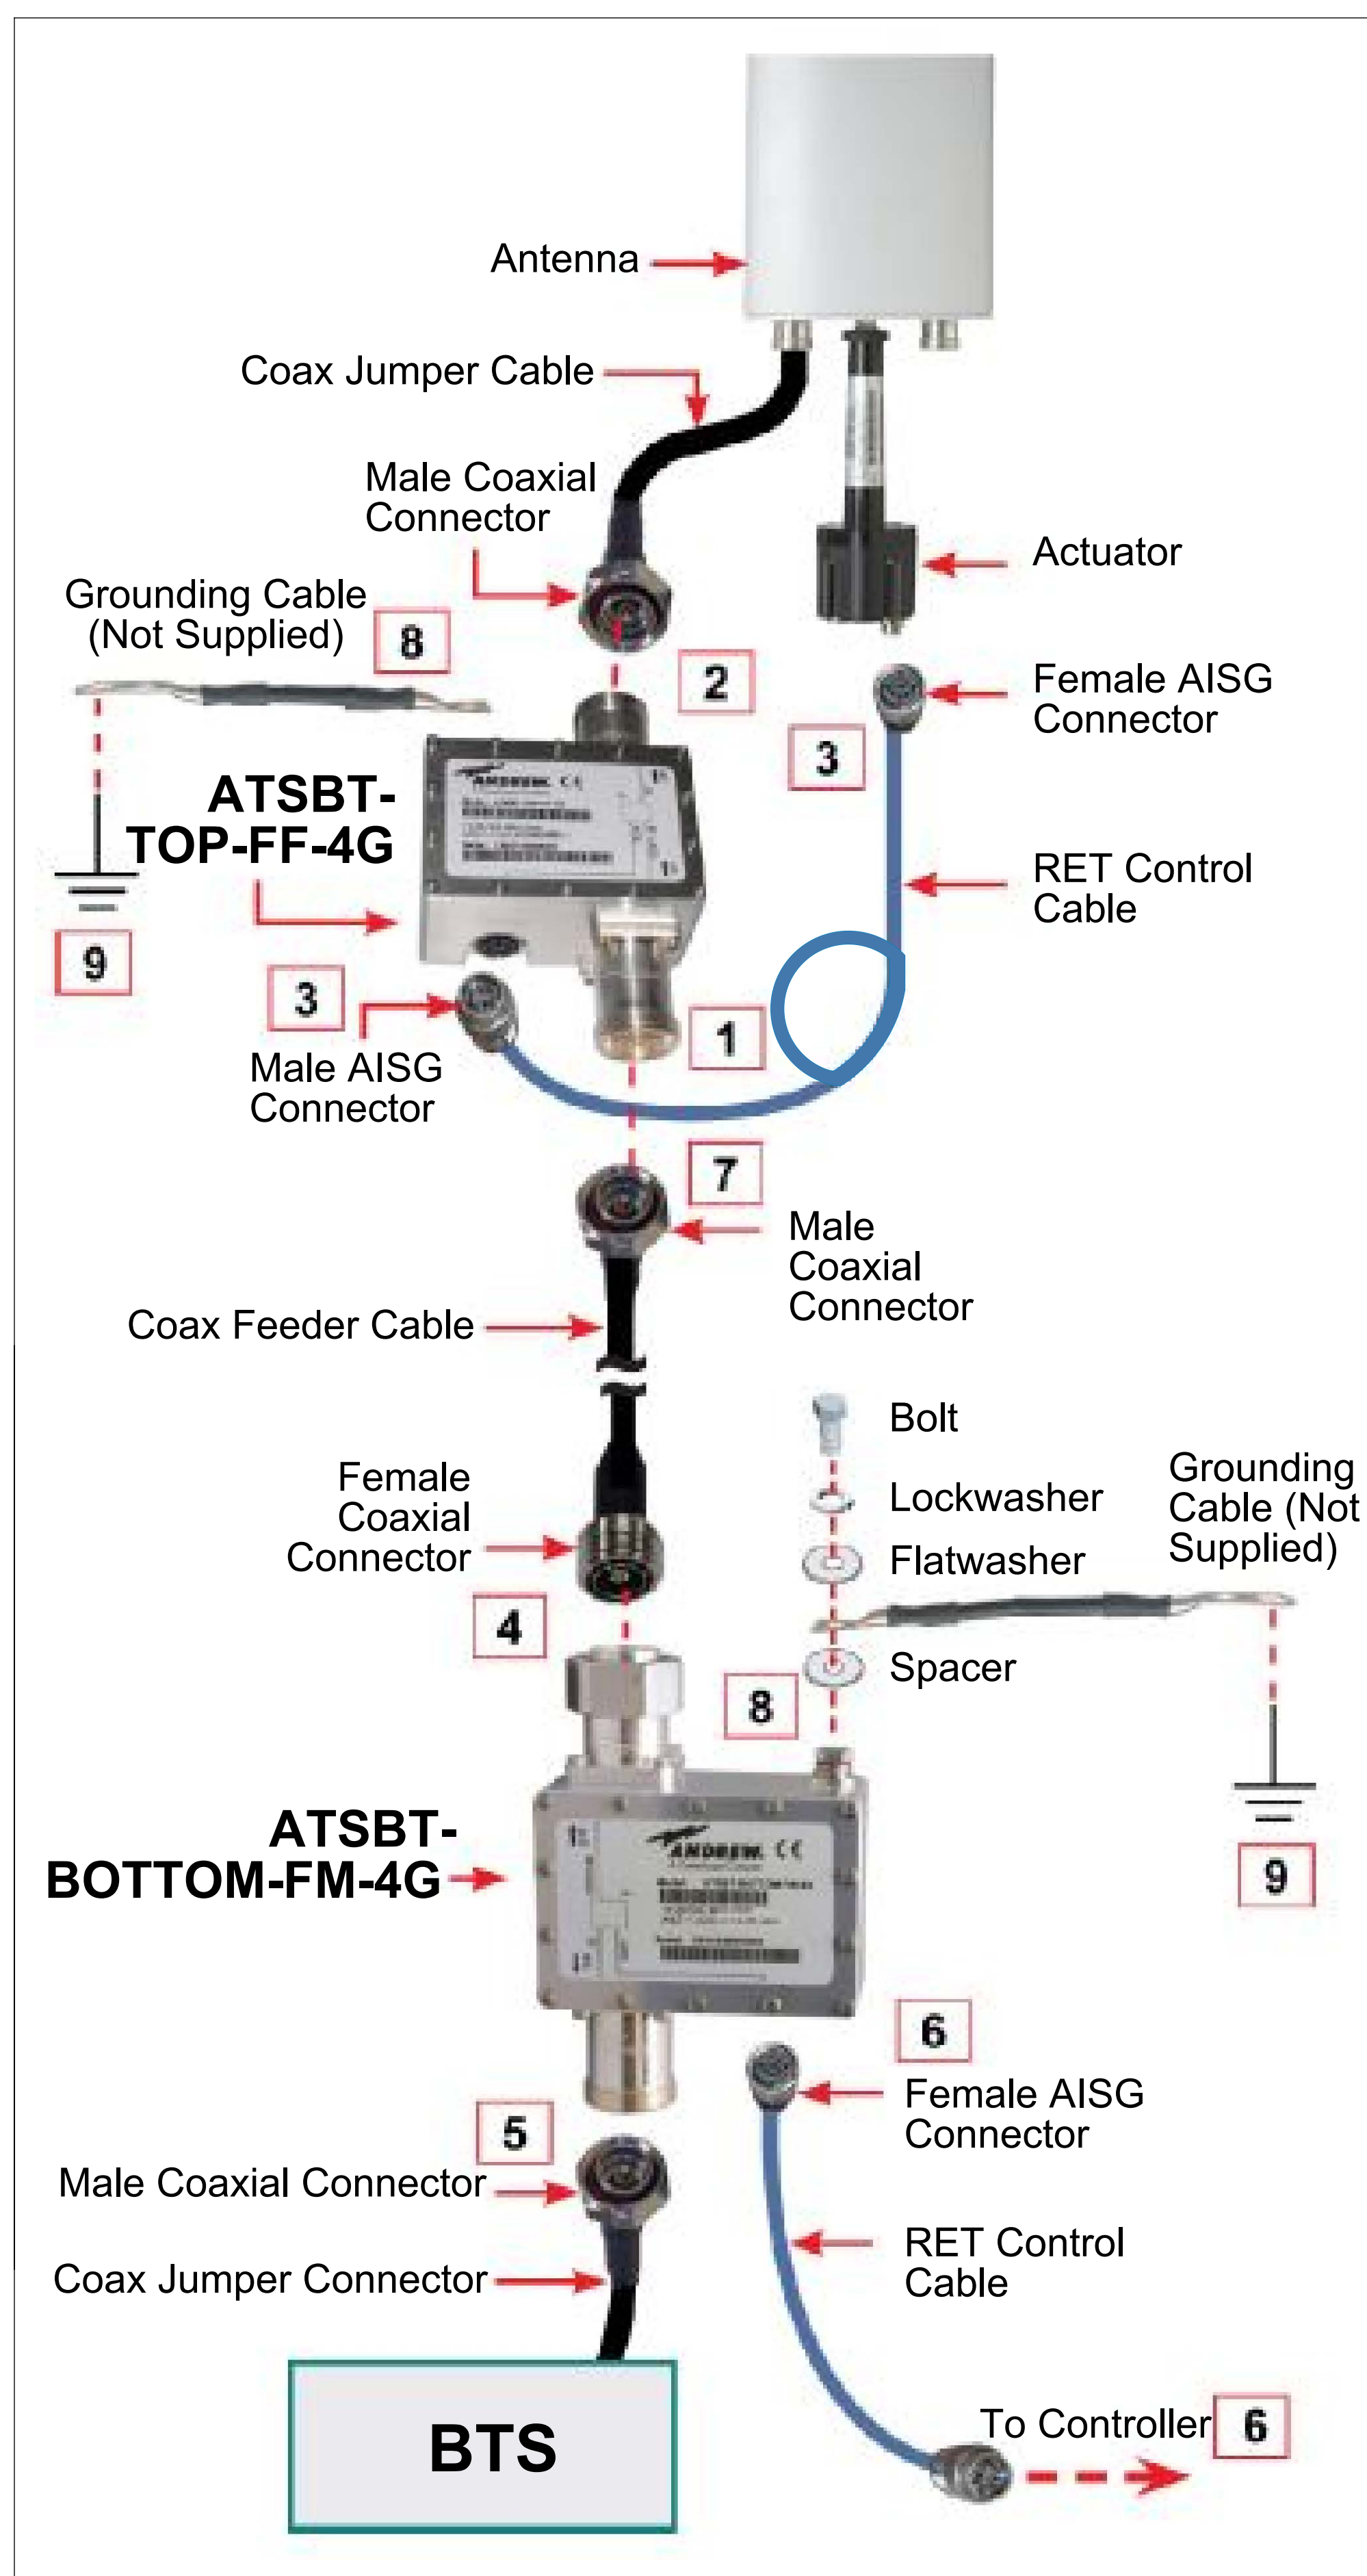

Figure 7. Example Of One Set-Up Using The ABSBT-4G Series Smart Bias Tees In A RET System.
Install top and bottom ATSBT-4G Series Smart Bias Tees by following steps 1 through 9, detailed in Figure 7.
- b) Depending on the RET cable length, CommScope recommends forming a loop in the cable as shown below in step 3 of Figure 7. Next attach the male end of the RET control cable to the Smart Bias Tee and the female end to the actuator.
One or both of the Smart Bias Tees are installed backwards.	See Figure 7 and installation diagram on the label for correct orientation.